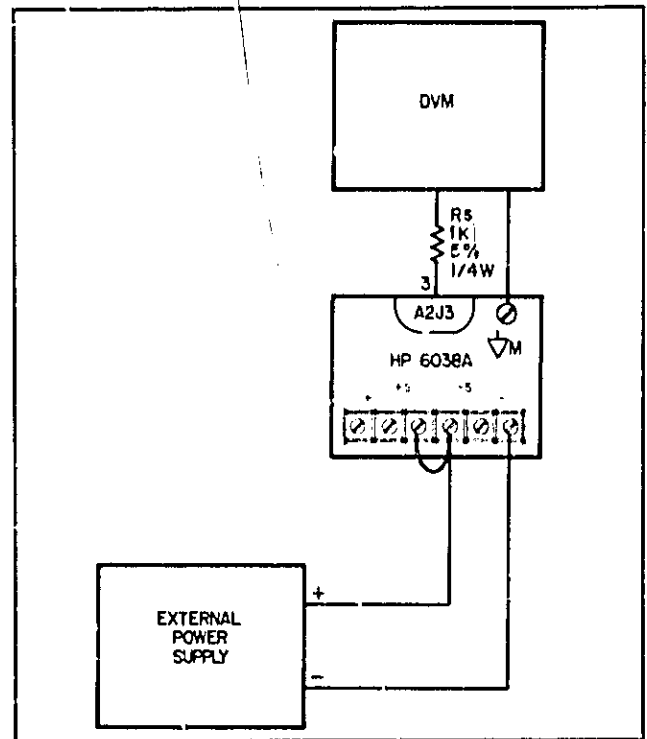

Figure 5-1. Common Mode Setup
- e. Remove both local sensing straps from rear panel terminal block, and connect a 1-volt external power supply with its + lead to - S and its - lead to - Out. See Figure 5-1.
- a. Attach the DVM from ∇ M on the rear panel to A2J3 pin 3 (VMONT). See DVM connection in Figure 5-1.